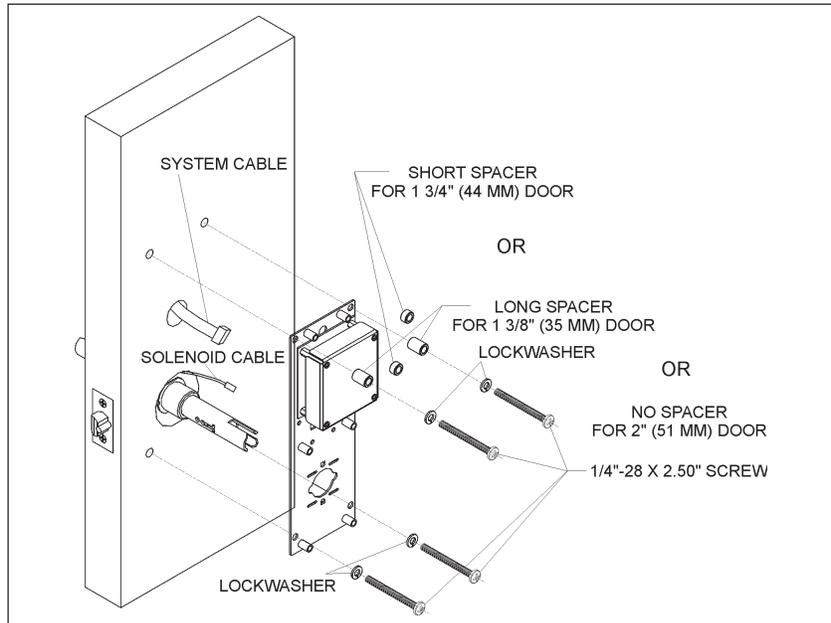

Figure 14
- Refer to Figure 14. Install the two top 1/4-28 x 2 1/2" Phillips round head screws with the appropriate spacers to compensate for the door thickness, and with the lockwashers (Refer to note below). Do not tighten yet.